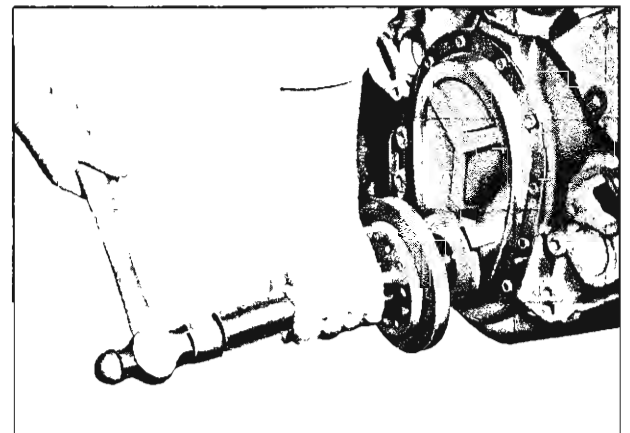

Fig. 143—Installing Harmonic Balancer
3. Using Tool J-5990, drive balancer on crankshaft until the hub bottoms on the crankshaft timing sprocket (fig. 143).